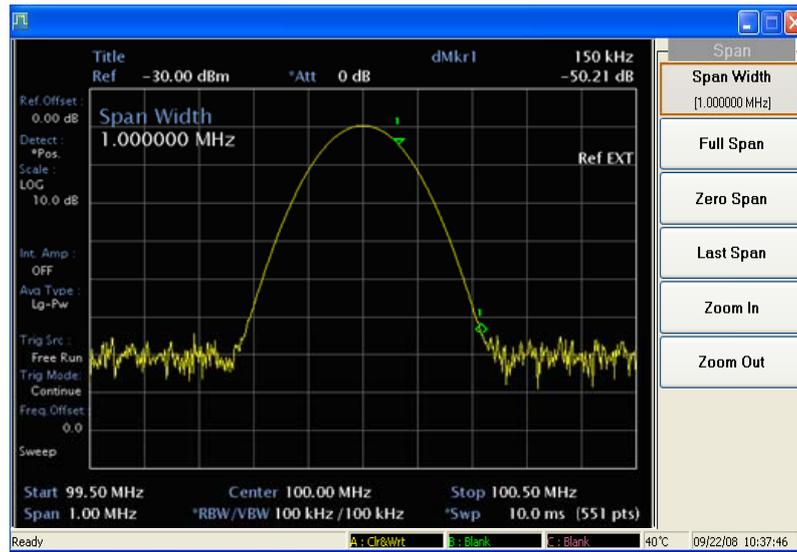

Fig. A-25 Determining the offset
- 7 Determine the offset from the signal peak to the desired point on the filter skirt by moving the delta marker to the midpoint. Press 75 kHz to move the delta marker to the midpoint. See Fig. A-25.